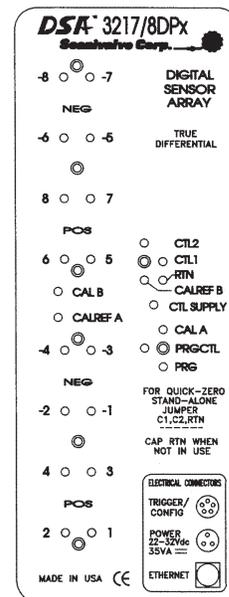

FIGURE 2.3 - DSA3217-PTP/8DPx DIFFERENTIAL TOP PANEL
For differential pressure measurement applications, the DSA3217-PTP can be configured with eight (8) differential pressure transducers. They are arranged into two (2) groups of four (4) transducers. Like the DSA3217-PTP/16Px, each group of transducers has a dedicated calibration valve that allows the input pressures to be blocked off during any calibration, including a zero offset calibration (CALZ). Figure 2.3 depicts the top panel of a DSA3217-PTP/8DPx module.